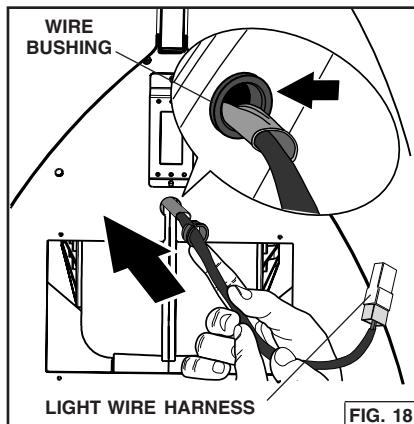

FIG. 18
2. Bring the light wire harness thru the hole in the flange plate as shown. Put the wire bushing over the wire and snap the bushing into the metal flange. Fig. 18.